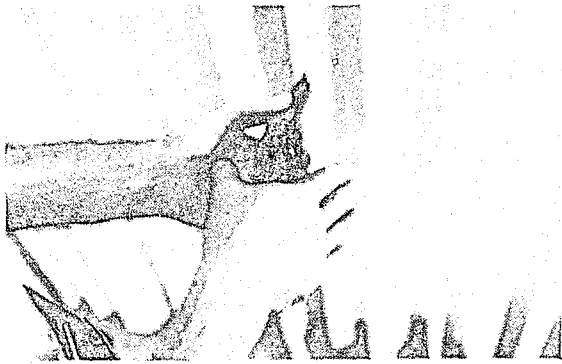

Figure 6-13
- a. Place the webbing of the hand as high on the frame as you can. Cover the top of the back strap. (See Figures 6-13 and 6-14)